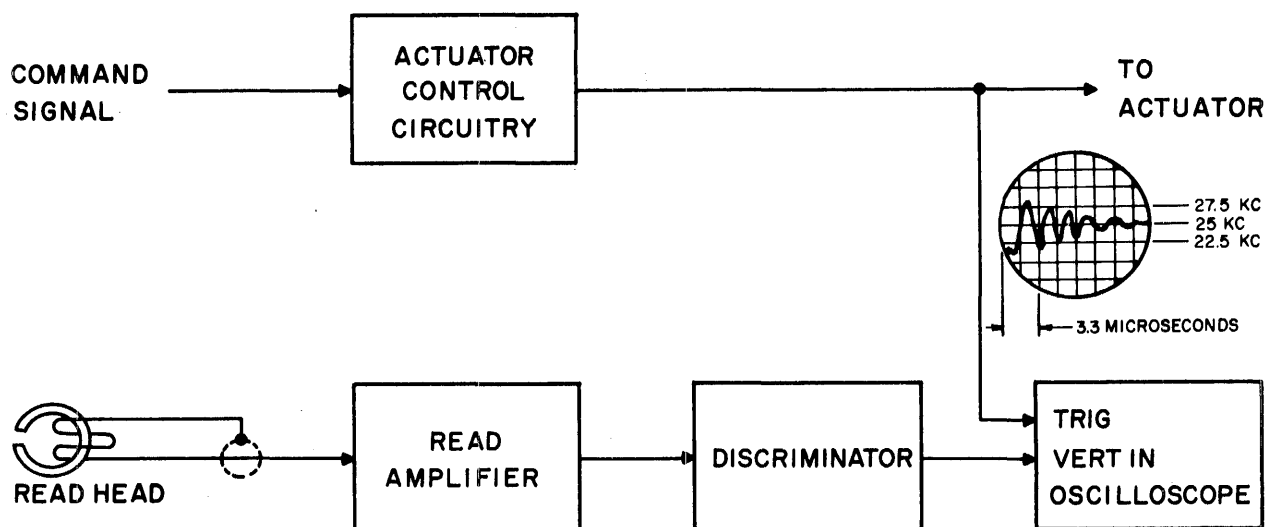

Figure 5-1.
Step 1: Connect equipment according to Figure 5-1.
Step 4: Cycle transport to operate in Forward and Reverse Drive modes at a convenient rate. Instantaneous speed variation must fall to 10% or less within 3.3 msec from start command. A typical waveshape is shown in Figure 5-1.